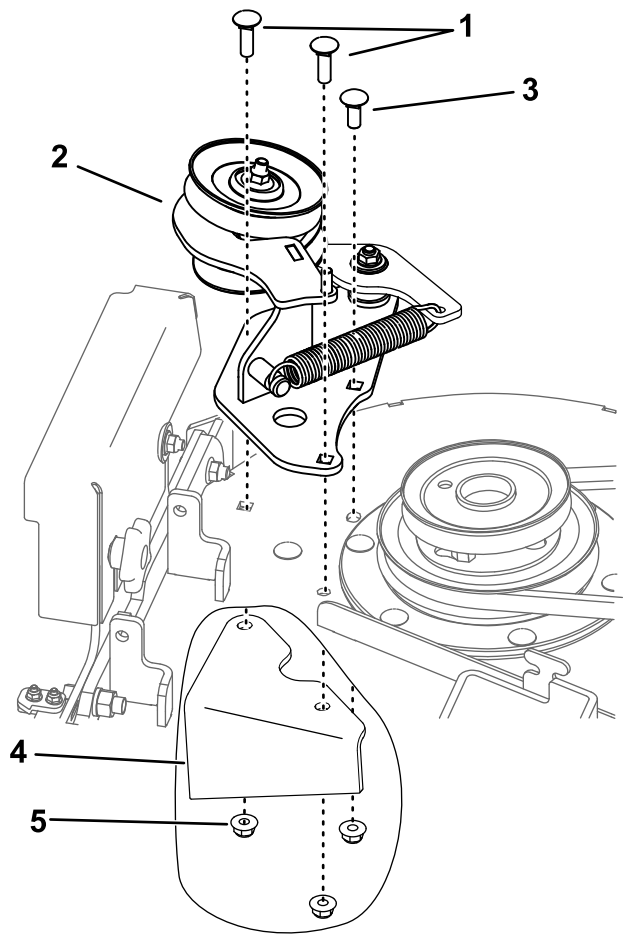

**Figure 4**
- Remove the nuts from the spindle in the right deck pulley and use them to attach the pulley assembly to the deck pulley (Figure 4).